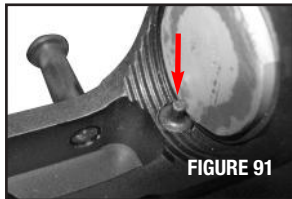

FIGURE 91
- Push in buffer (at the rear of the receiver / front of the stock) slightly and depress buffer retainer to release the buffer (FIGURE 91).